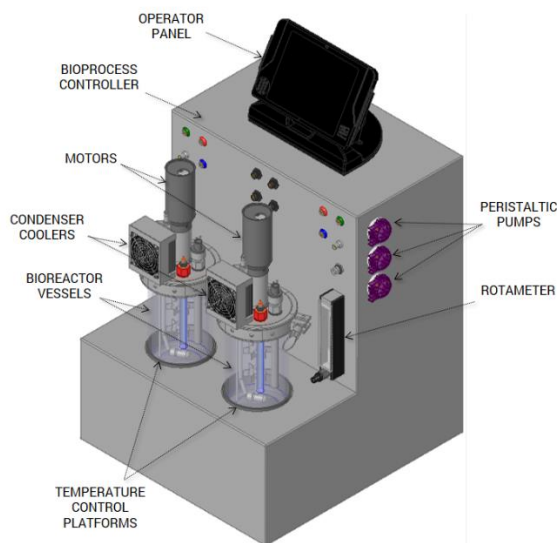

Figure 0.6. Twin bioreactor system
The bioreactor system consists of the following main parts: (1) two stand-alone bioreactor vessels (2) control unit (3) and operators panel (see Figure 0.6).
While installing the twin bioreactor system, the vessels should be placed on the heat transfer platforms, which are located on the control units front side as shown in Figure 0.6.